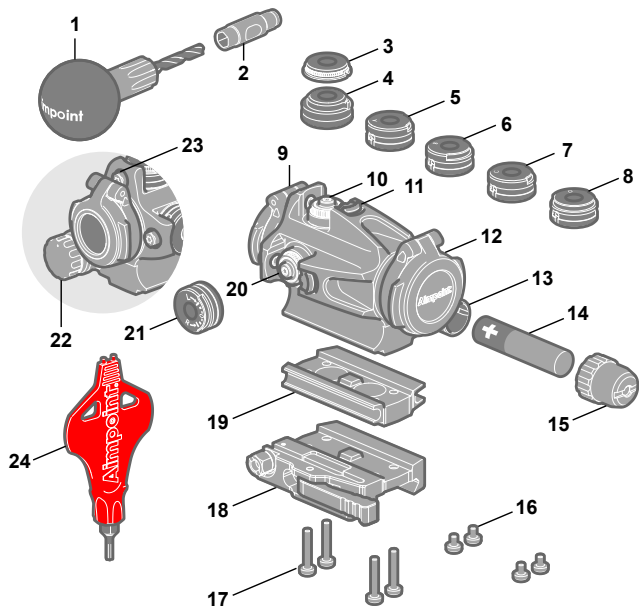

Fig. 1 Overview
- c Insert battery with the positive end (+) toward the sight and the negative end (-) toward the battery cap as shown in Fig. 1.